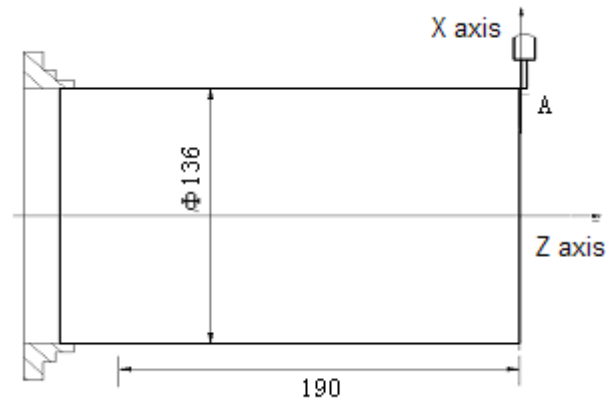

Fig.10-9
(8) The system switches into the tool offset page, and the cursor is moved toward #002 offset, the software key  is pressed to enter the measuring input page, X135 is input on the input page , and  software key is pressed, Z0 is input with the same method;
(9) Move the tool into the safe position, and execute the 3rd tool by pressing the tool change key in Manual mode;
(10) Start the spindle and move the tool into the tool setting position, which is shown as Fig. 10-9, like point A: